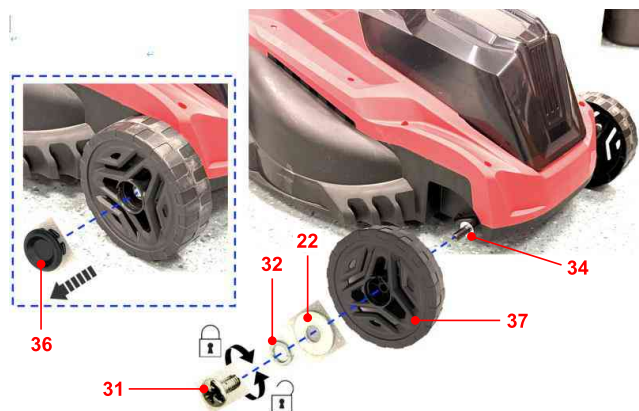

Fig. 27
1. Remove the wheel cap (36) with a flat-head screwdriver. Loosen the bolt (31) with a Philips #3 screwdriver; then remove it with the spring washer (32), flat washer (22) and old front wheel (37) from the wheel axle. Ensure to keep the flat washer (34) on the wheel axle (Fig. 27).